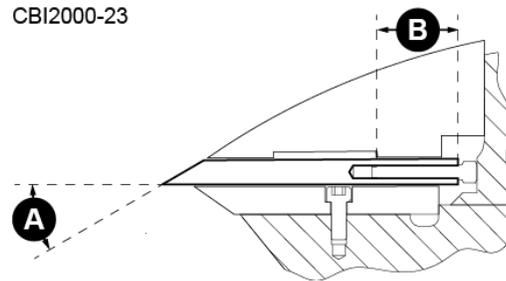

Figure 6.14 - Dispose of spent knives
4. Use Appropriate Machine Settings - CBI knives are ground to a standard 30° angle (Figure 6.14 / A). This setting is chosen for optimal machine performance and part life. Always consult CBI before grinding to any other knife angle. For more information, contact CBI.
5. Dispose of Spent Knives - CBI knives can be ground only to a minimum useable length that varies depending on which rotor is used and what chip size is being made. There must be enough of the knife remaining so that there is at least 1/2" of clamp area between the tail of the knife and the front edge of the rear step in the knife clamp (Figure 6.14 / B).